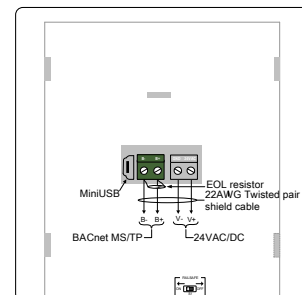

Fig. 3 Terminal Resistor
- To install NVT35U on a MS/TP network, user should follow RS-485 networks general wiring rule, does not be T shape or star shape configuration. Add terminal resistor at both side. If NVT35U is located at the end of a network, the terminal resistor can be installed on its port (see Fig. 3).